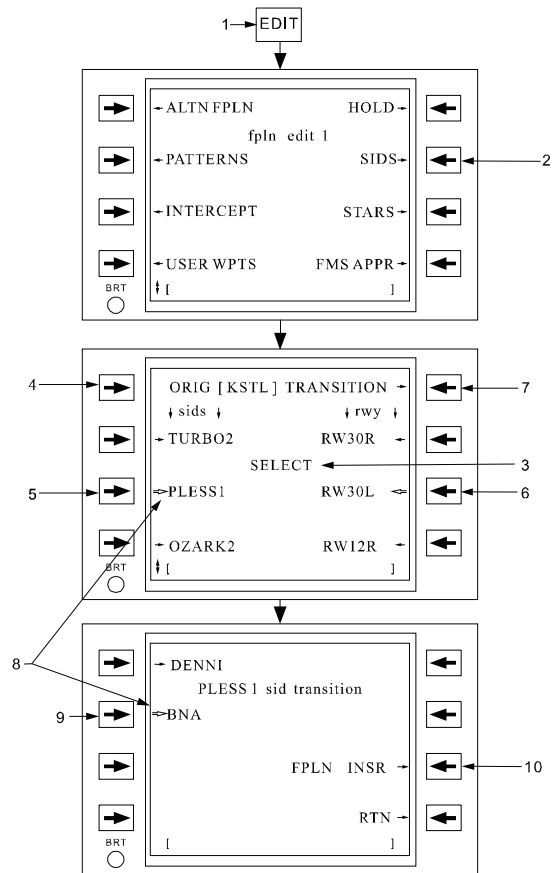

Figure 3B-74. Selecting SID/STAR
(2) *SID/STAR Selection and Flight Plan Entry.* To select a SID/STAR procedure for use in the active flight plan, press the **EDIT** key on the CDU and then select the SID or STAR line select to access the corresponding SID/STAR definition pages. Refer to Figure 3B-74 and Table 3B-54. To define a desired SID or STAR, enter the airport associated with the desired SID or STAR and select the ORIG or DEST line selects to access the possible procedures for the airport. Next, select the SID/STAR name and desired runway. Access the Transition Page and select a desired transition point (optional), and then insert the procedure into the active flight plan. When a transition point is not selected, the FMS will insert into the flight plan only the common leg segments for the procedure.